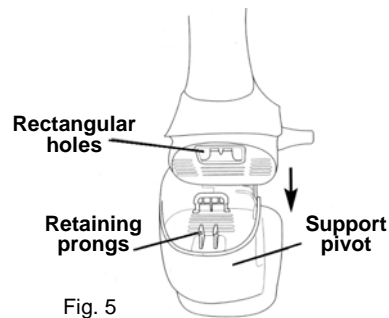

Fig. 5
2. To connect the hand mixer to the support pivot, locate the two retaining prongs on the support pivot into the two rectangular holes in the heel of the hand mixer. (Fig. 5) When the hand mixer is seated on the support pivot, press down on the hand mixer to click it into place and lock the hand mixer and the support pivot together.